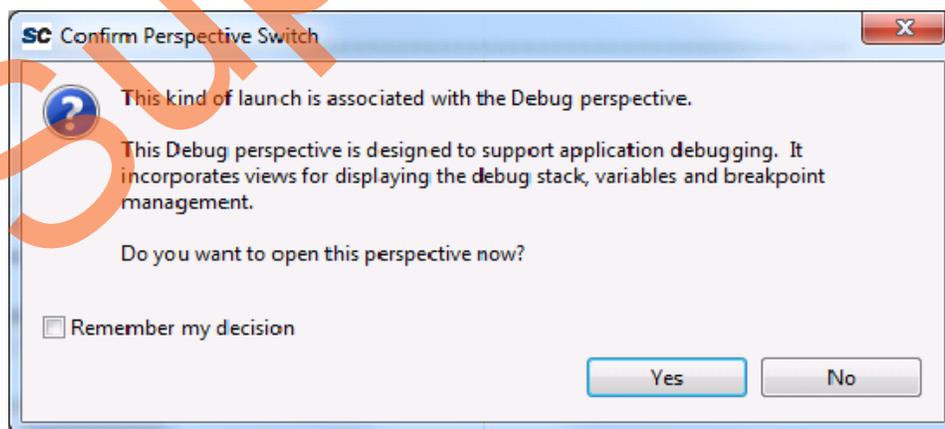

Figure 28 • Confirm Perspective Switch
4. On the **Confirm Perspective Switch** window, click **Yes**, as shown in **Figure 28**.